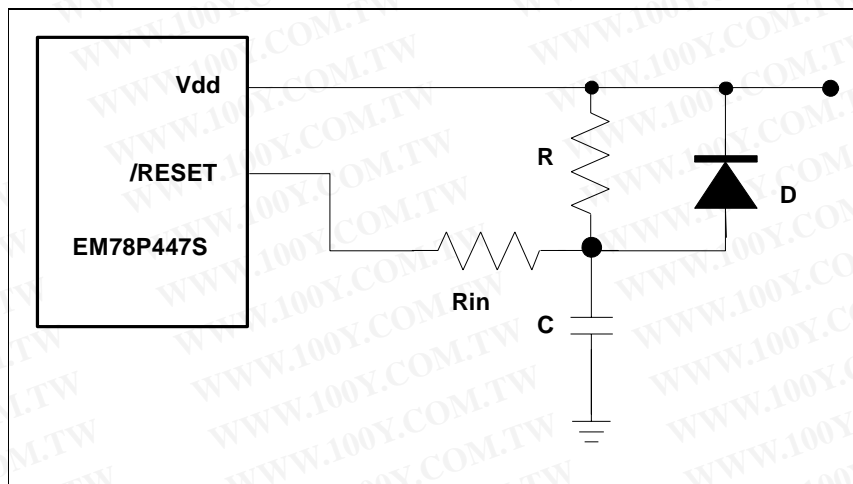

Fig. 13 External Power-Up Reset Circuit
The circuit shown in Fig.13 implements an external RC to produce the reset pulse. The pulse width (time constant) should be kept long enough for VDD to reach minimum operation voltage. This circuit is used when the power supply has slow rise time. Because the current leakage from the /RESET pin is about  $\pm 5\mu\text{A}$ , it is recommended that R should not be greater than 40 K $\Omega$ . In this way, the /RESET pin voltage is held below 0.2V. The diode (D) acts as a short circuit at the moment of power down. The capacitor C will discharge rapidly and fully. Rin, the current-limited resistor, will prevent high current or ESD (electrostatic discharge) from flowing to pin /RESET.